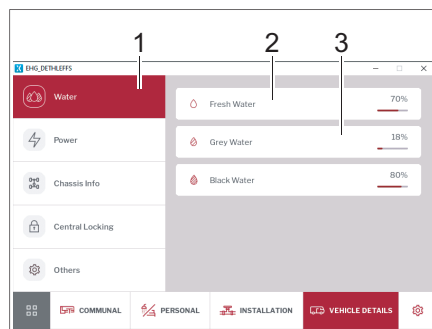

Fig. 289 Water supply
- Click on the *Water Supply* (Fig. 289,1) button. The fill level in the fresh water (Fig. 289,2) and waste water tank (Fig. 289,3) will be displayed in %.